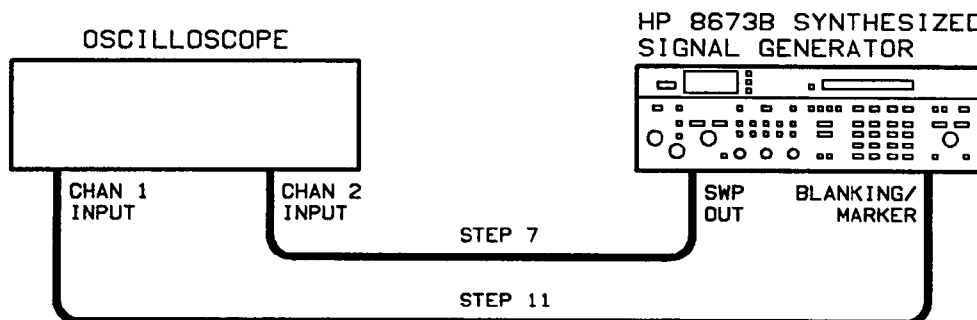

Figure 5-48. Sweep Out, Blanking/Marker, and Frequency Reference Adjustments Test Setup
7. Connect the Signal Generator to the oscilloscope's channel 2 input as shown in figure 5-48.